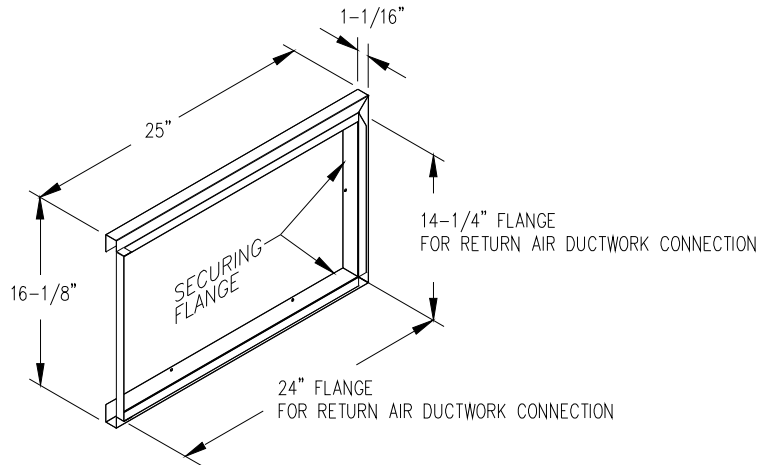

Fig. 2: A typical filter rack and dimensions for the CSHB60-90 furnace.
The filter rack provided with the furnace, refer to Fig. 2, will serve as a template to scribe a mark for the return air opening on the casing. Place the filter rack on a side casing approximately one inch up from the bottom of the furnace and centered from side to side. Place the securing flange against the casing when locating the return air opening. For your convenience, (4) locator knock-outs have been placed at the proper locations on both the left and right side casings.
Connect the return air plenum to the filter rack and slide the filter into place. Dimensions for adapting the return air plenum to the filter rack are provided (See Fig. 2).